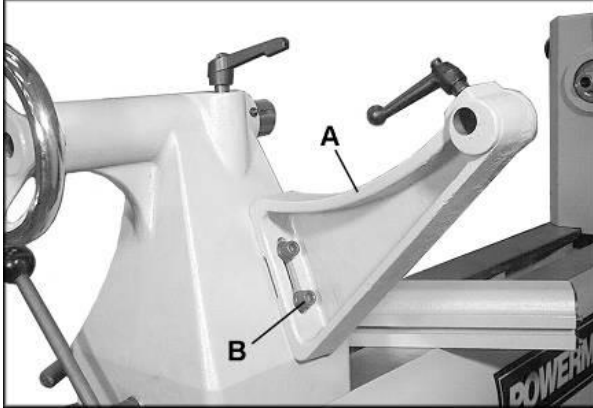

Fig 10
Mount the comparator rear bracket (A, Fig 10) to the back of the tailstock with two socket head cap screws, lock washers and washers (B).